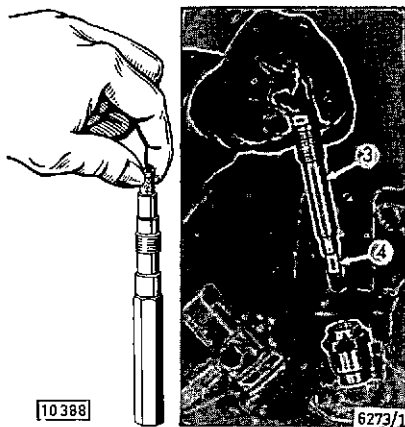

Fig 8
3. Unscrew ignition paper holder 3 (Fig. 8) from cylinder head, insert the soft, non impregnated end of a dry self-igniting paper **firmly** in the holder and refit the latter. The ignition paper fits tight enough when the weight of the holder can be held by the salient paper end.